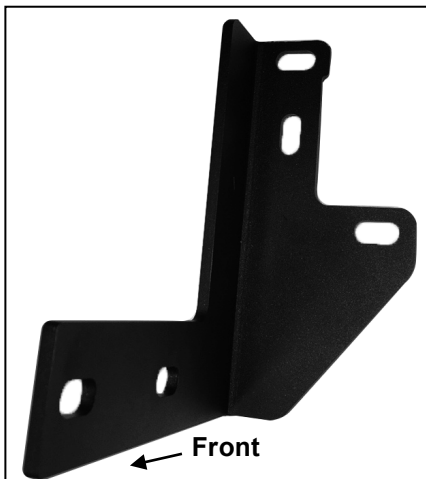

Fig 3 Passenger/right frame Bracket
3. Select the passenger side frame mounting bracket, **(Figure 3)**. Slide the Bracket over the (2) threaded studs. Secure the Bracket to the studs with the factory hex nuts, **(Figures 4 & 9)**. Leave hardware loose at this time.